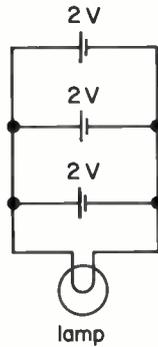

Fig. 7
1. The voltage required to light the lamp in Fig. 7 is 2 V.